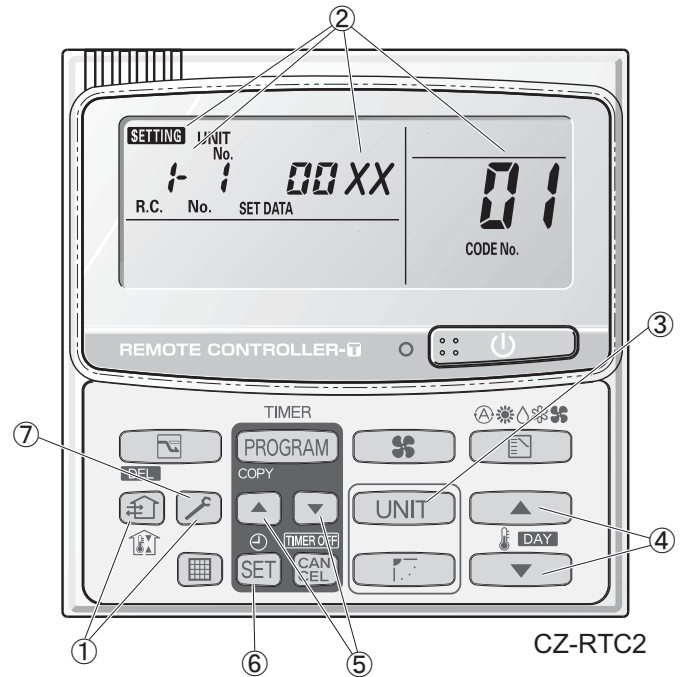

Fig. 7-1
- "**SETTING**", unit No. "**1 1**" (or "**ALL**" in the case of group control), item code "**01**," and settings data "**00 XX**" are displayed blinking on the remote controller LCD display (Fig. 7-1). At this time, the indoor unit fan (or all indoor unit fans in the case of group control) begins operating.